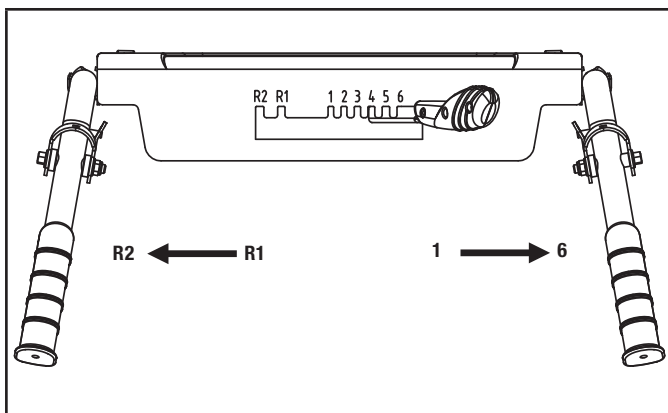

Figure 15
Your snowblower has 6 forward speeds and 2 reverse to regulate forward and backward motion (Fig. 15).
2. Move the speed-control lever to the gear (either forward or reverse) that you require (Fig. 15).